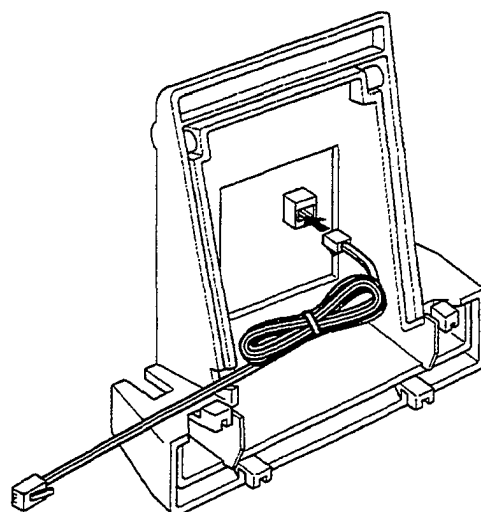

Figure 1-64 Plug in the Line Cord Using a Wall Jack
5. Plug the line cord in the jack on the wall plate, wrap the extra cord and secure it with a tie wrap, and lead the line cord out through the groove in the side of the base unit. Refer to Figure 1-64 Plug in the Line Cord Using a Wall Jack.